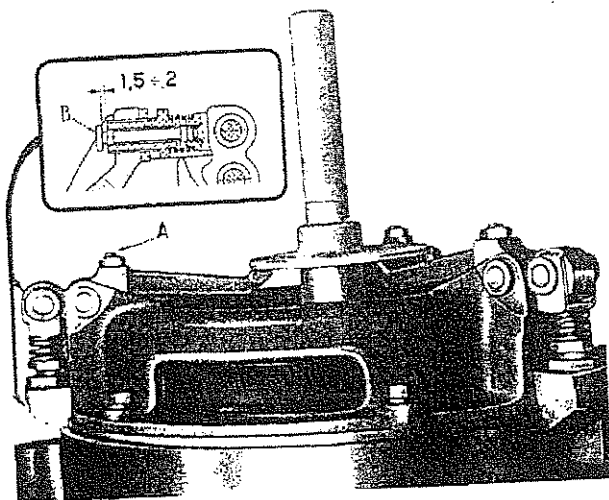
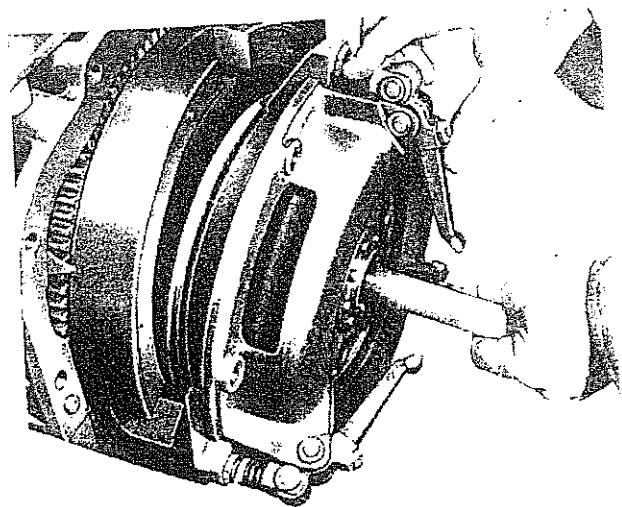

Fig. 90. - Clutch adjustment on engine, using tool
Fig. 91. - Mounting clutch on engine using tool A 117063.
Note. - If clutch is installed on fixture A 711063/A, the adjustment may be made after the assembly on the tractor, using fixture A 117063 provided with a suitable flange (Fig. 90).
- b) Adjust the clearance (B, Fig. 90) of the power take-off pressure plate clevis. Check that clearance be 1.5 to 2 mm (0.0591" to 0.0787"), and if different, unscrew the locknut and screw on or unscrew the sleeve. The clearance adjustment may also be made when the clutch is mounted on the tractor through the gearbox side cover.
The centering of the assembly on the engine flywheel is facilitated by using fixture A 117063 (Fig. 91) that may also be used for the disengagement levers adjustment, when fitted with the proper plate (Fig. 90).